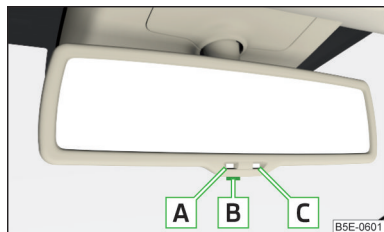

Fig. 59
**Oglinda cu efect heliomatic automat - varianta 2 » fig. 59**